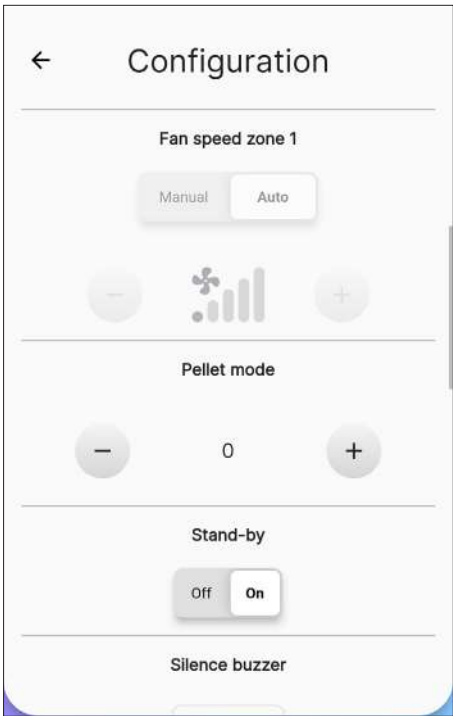
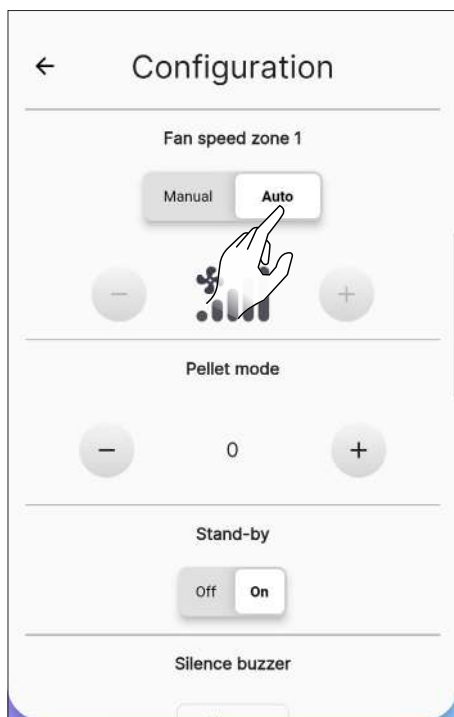

Fig. 10.12
Fig. 10.13
**i** This function can only be used with the stove on (Fig. 10.13), otherwise it cannot be changed (Fig. 10.12). You can choose between manual or automatic operation. If manual operation is chosen, the fan speed can be changed. The settable values range from 1 (min) to 5 (max). Set the speed by pressing the icons  or .